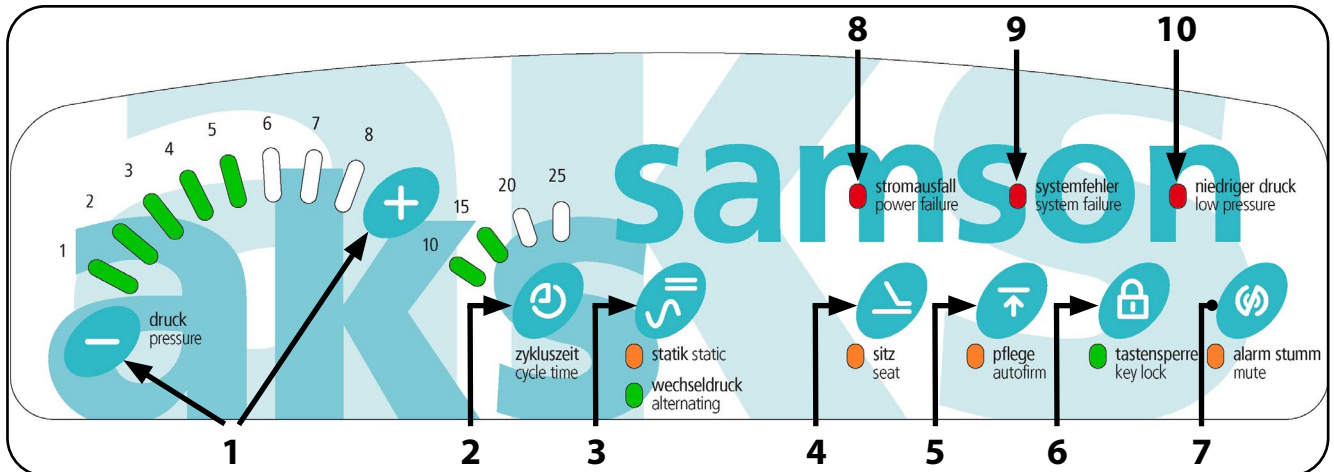

Fig. 5.1.01 – Control panel for aks-samson pump unit
Two pressure regulation buttons (“+” and “-”) on the pump unit’s control panel (Fig. 5.1.01) are used to adjust the filling pressure in stages in relation to the patient’s weight as a guideline. The filling pressure can be adjusted in eight stages. The mandatory hand test and readjustment of the filling pressure, if necessary, ensures adjustment to the patient’s specific characteristics (see chapter on Operation/use, section **Normal operation**).
A potential loss of pressure or pressure drop in the system is signalled by a visual “low pressure” alarm signal (Fig. 5.1.01) and by an audible alarm signal, thereby reducing the risk of the patient developing bedsores. To avoid continuous exposure to noise, the acoustic alarm signal can be switched off separately using the alarm reset button in the event of pressure loss (Fig. 5.1.01). The visual alarm signal continues to indicate the pressure loss until this is rectified.
The product can also be switched from alternating pressure mode to static operating mode and vice versa using the “alternating/static” button on the pump unit (Fig. 5.1.01). In static operating mode, both air chamber circuits of the upper air cell level in the alternating pressure mattress are filled simultaneously with the set filling pressure. The set operating mode is indicated by the lighting of the respective associated LED.
If the "low pressure" and "system failure" alarms are triggered, the audible alarm can be switched off separately using the "mute" button (Fig. 5.1.01) to prevent continuous noise nuisance. The corresponding visual alarm signal continues to indicate the fault until this is rectified.
2. Check the set operating mode after switching on the unit. If necessary, select the desired alternating pressure or static operating mode by pressing the "static"/"alternating" button (Fig. 5.1.01).
3. Once the alternating pressure mattress has reached its operating pressure, the red "low pressure" LED goes out (Fig. 5.1.01).
4. Reactivate the acoustic alarm by pressing the alarm reset button again (Fig. 5.1.01).